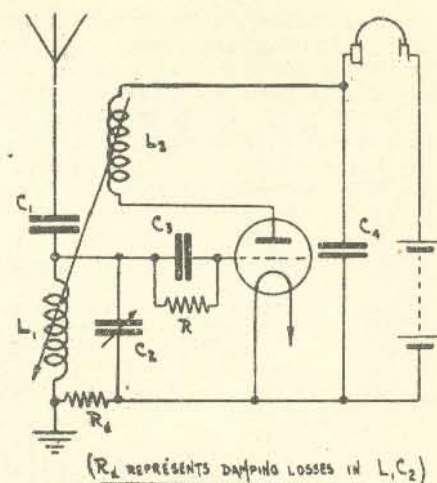
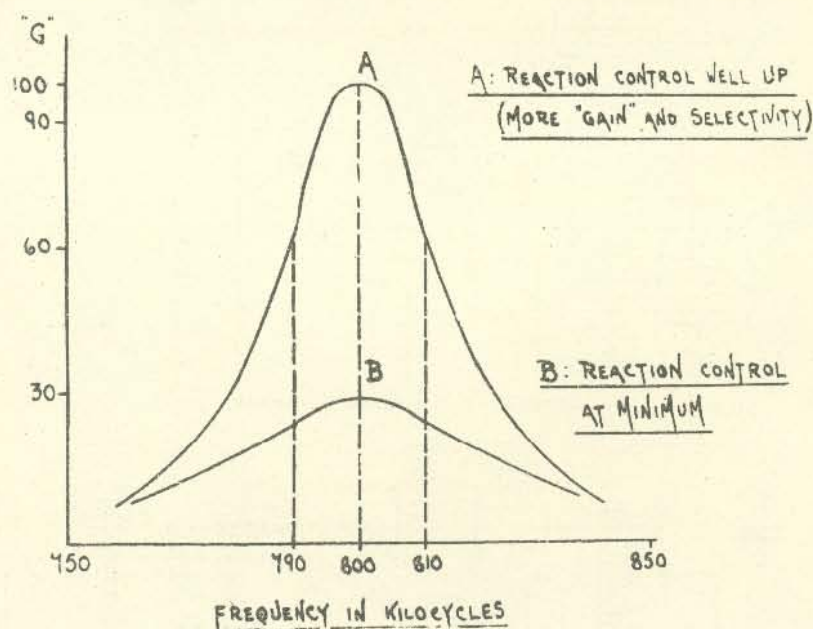
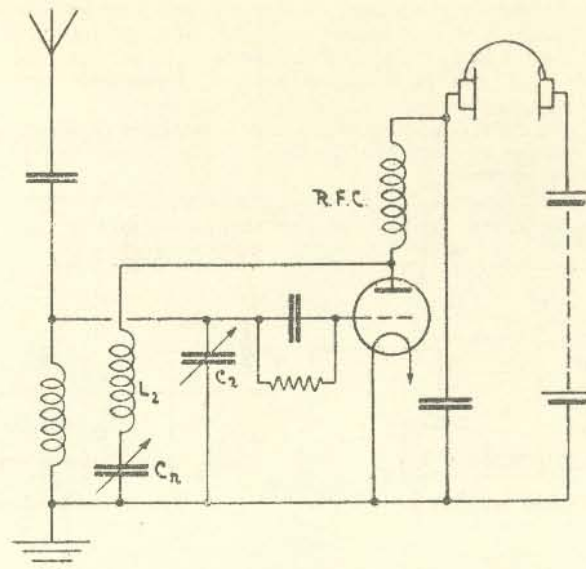
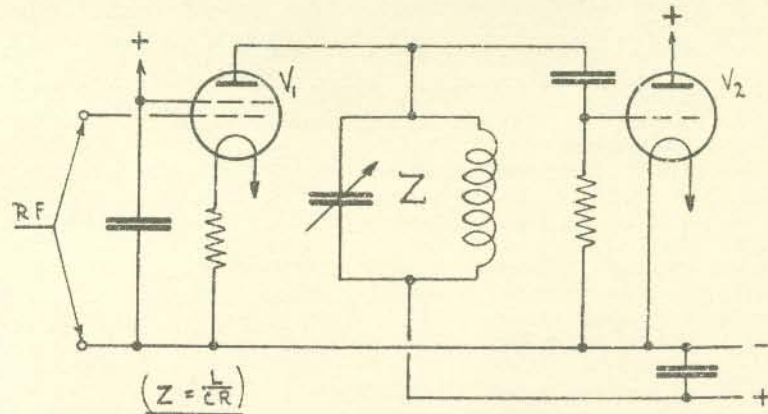

FIG. 36.—Autodyne.
FIG. 37.—Effect of reaction.
FIG. 38.—Magnetic reaction, capacity controlled.
FIG. 44.—R.F. amplifier.
The reception of C.W. may also be accomplished by allowing the grid circuit detector to generate its own oscillations (in a manner to be described later) by using a circuit similar to fig. 36. In this case the receiver itself must be mistuned to the incoming C.W. signal by, say, 1 kc/s, so that "self heterodyne" may take place. In fig. 36 the coil L_2 is coupled to L_1 so as to hand over R.F. energy from anode to grid circuit. This energy is used to overcome the damping losses in the grid circuit, so that it may remain in continuous oscillation and permit "autodyne" reception of C.W.
5. **Reaction.**—In fig. 36, if L_2 is coupled to L_1 less tightly, so that circuit does not actually generate oscillations, R.F. energy will still be fed back into the grid circuit, and will make up for the damping losses there, but to a less extent. This will lead to increased circuit magnification in L_1 , C_2 , and will increase sensitivity and selectivity in the reception of R/T and I.C.W. signals (see fig. 37). This is called "regenerative R.F. amplification" or "regeneration". A "reaction control" is fitted so that any desired amount of "feed back" may be provided.
6. **The Reaction Control** may take several forms. Fig. 36 is not a practical arrangement and may be modified so that the control of reaction is provided by a condenser (C_r) (fig. 38).
"Tuned anode" coupling is almost invariably used in the R.A.F., the resistance of fig. 38 being replaced by the "dynamic resistance" $\left(\frac{L}{CR}\right)$ of a tuned circuit as in fig. 44. This gives high selectivity, and the stray capacities become part of the tuned circuit. Screened tetrode or pentode valves are invariably used in R.F. amplifiers for the reasons explained in Chapter 5.